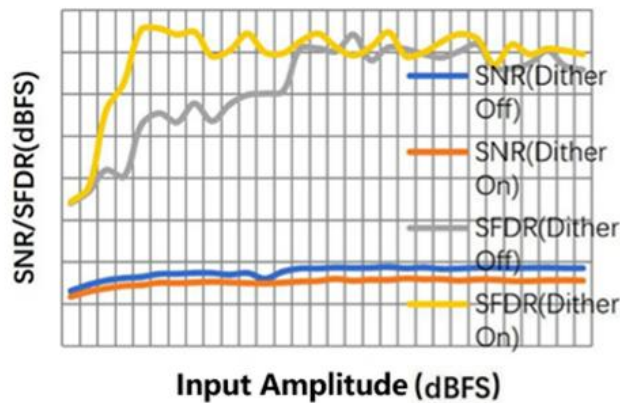
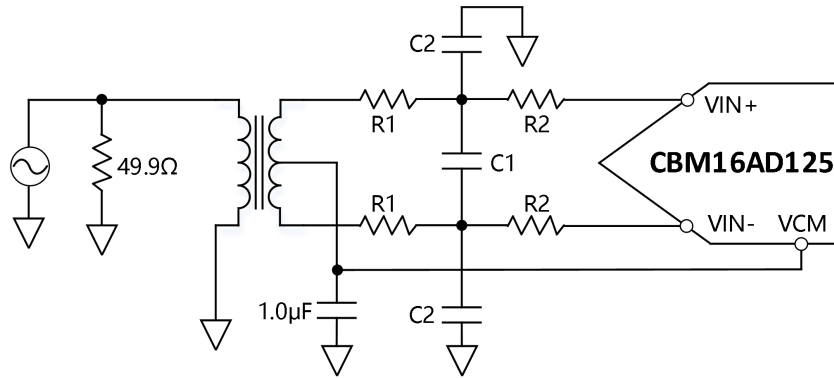

Figure 13 SNR/SFDR vs. Input Amplitude($f_{in}=30.1\text{MHz}$)
Figure 14. Differential Transformer-Coupled input Configuration
The ADC analog inputs are not internally dc biased. In accoupled applications, the user must provide this bias externally. An on-chip, common-mode voltage reference is available from either the V_{CM} pin or autonomous setting if $V_{CM} = 0.5 \times AVDD$ (or 0.9 V) are met. When the common-mode voltage of the analog input is set by the V_{CM} pin voltage (typically $0.5 \times AVDD$). The V_{CM} pin must be decoupled to ground by a $0.1\mu\text{F}$ capacitor (Figure 13, Figure 14)
1. The input configuration uses differential transformer coupling. An example is shown in Figure 13. To bias the analog input, the V_{CM} voltage can be connected to the center tap of the secondary winding of the transformer.
2. The input configuration uses differential double balun coupling (see Figure 14). In this configuration, the input is ac-coupled, and the CML is provided to each input through a 33 Ω resistor. These resistors compensate for losses in the input baluns to provide a 50 Ω impedance to the driver. Table 8 displays recommended values to set the RC network.